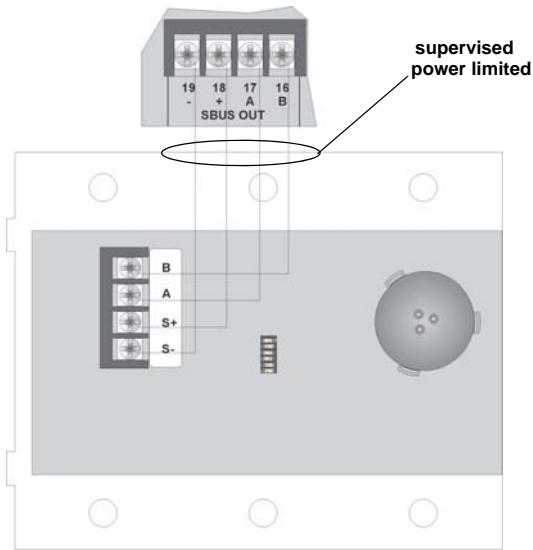

Figure 1.2 5865-3 or 5864-4 Connection to the FACP
1. Make sure that the 5865-3 is properly wired to the control panel. See Figure 1.2.
Terminate the wiring as shown in Figure 1.2. Also refer to Table 1.1 for wire connections.